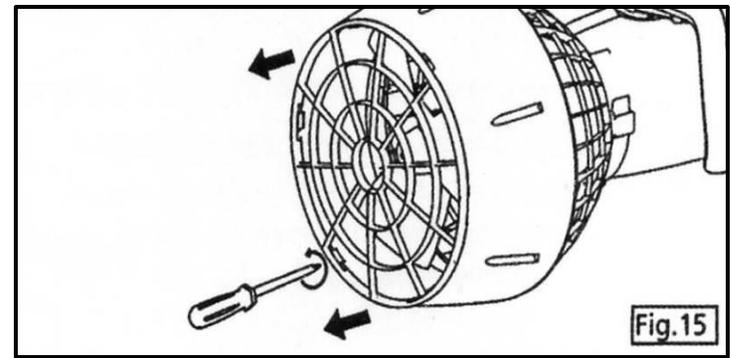

Fig.15
4. Unscrew the six Fan Guard screws as shown in Figure 15.